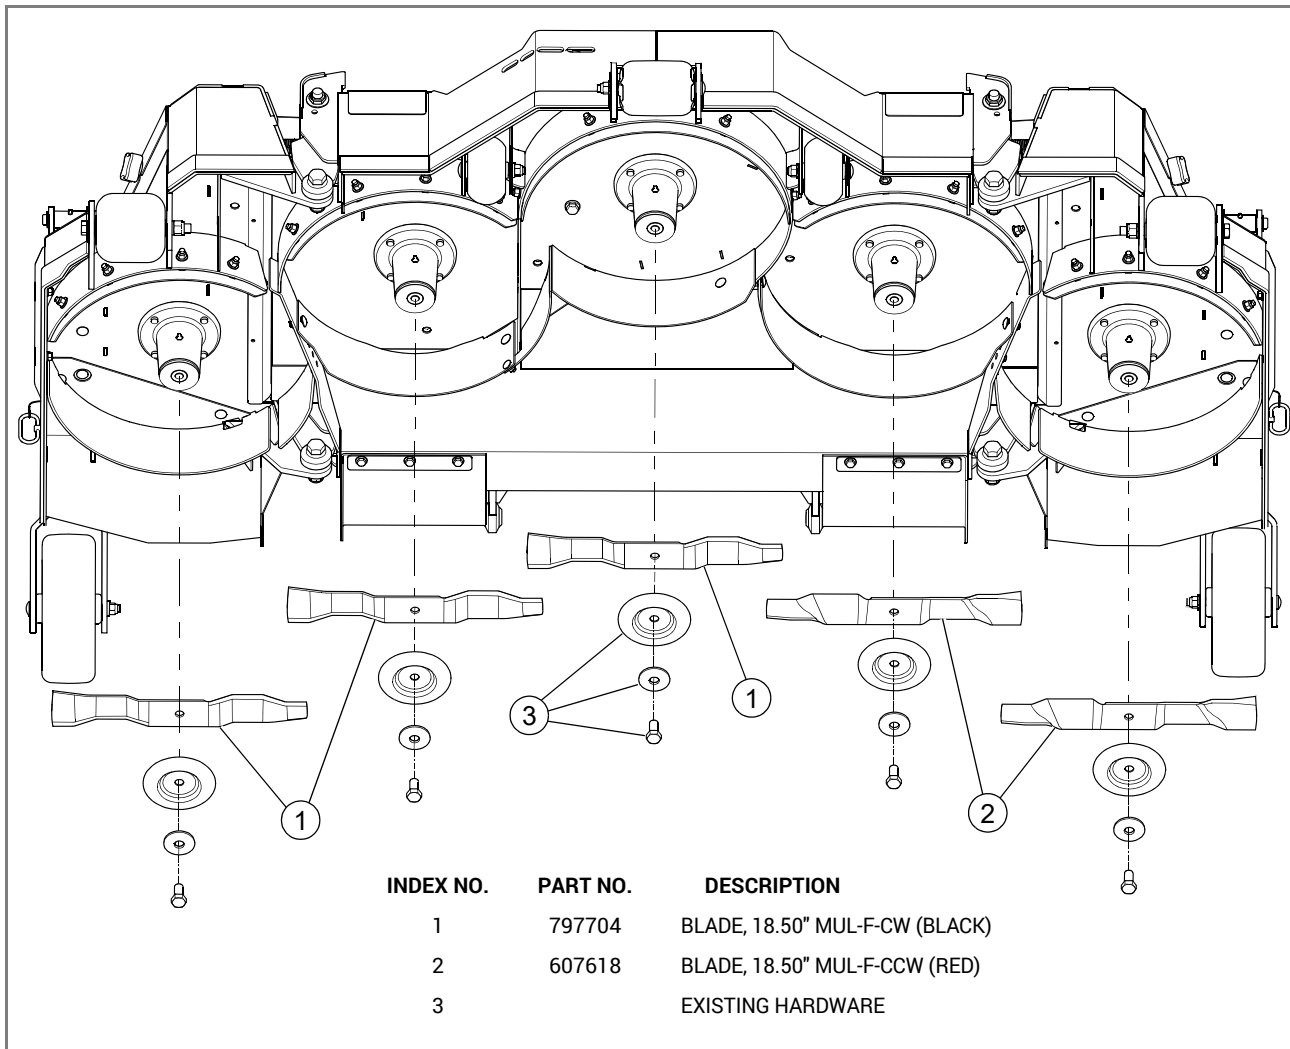

FIG. 6
10. Install the mulching blades on the spindles using the existing blade hardware. Torque the bolts to 118 ft-lbs (160 N•m). FIG. 6